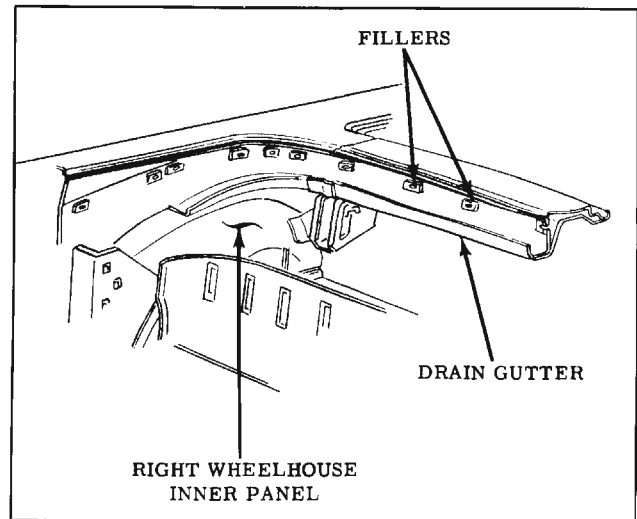

Fig. 16-123 Checking Trim Stick Fillers
13. Inspect rubber trim stick fillers cemented to body below pinchweld. Re-cement, if necessary. (Fig. 16-123)